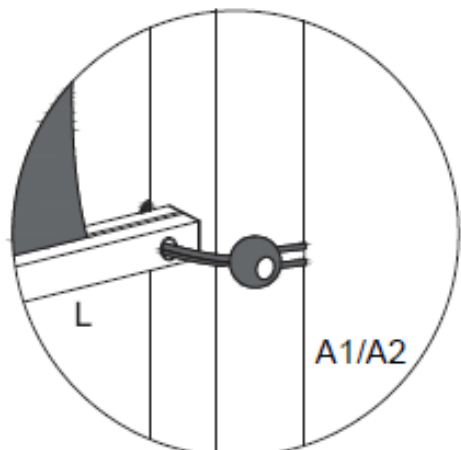

Figure 9
Step 9: Secure Pull-Down Screen (L) to Corner Posts (A1 & A2). See Figure 9. Insert the Stake (T) into the ground through Base Plate (H) to fix the pergola. See Figure 10.